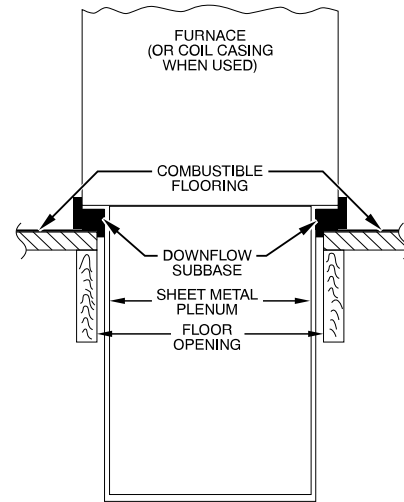
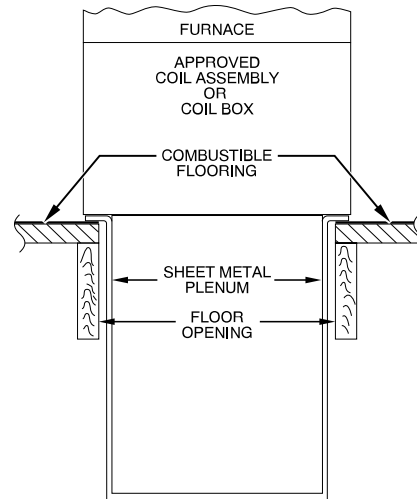

Fig. 12 – Furnace, Plenum, and Subbase Installed on a Combustible Floor
Fig. 13 – Furnace, Plenum, and Coil Assembly or Coil Box Installed on a Combustible Floor
4. If downflow subbase is used, install as shown in Fig. 12. If manufacturer's cased evaporator coil or coil casing is used, install as shown in Fig. 13.